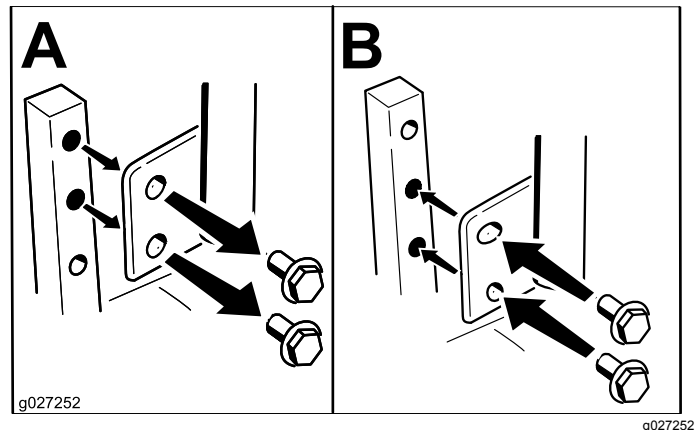

Figure 9
You can adjust the motion-control levers higher or lower for maximum comfort (Figure 9).
2. Loosen the lower bolt just enough to pivot the control lever forward or rearward (Figure 9).